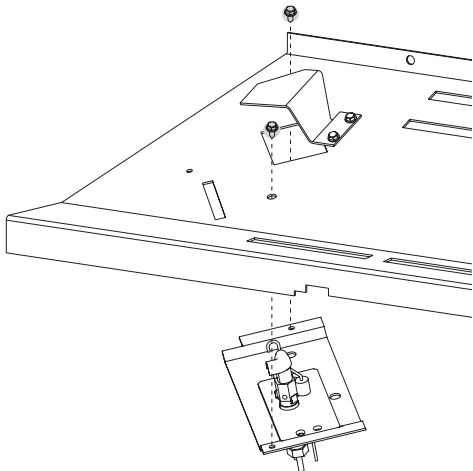

Figure 3
4. Remove (2) screws holding pilot assembly to burner pan. This will allow pilot assembly to drop. See Figure 3.